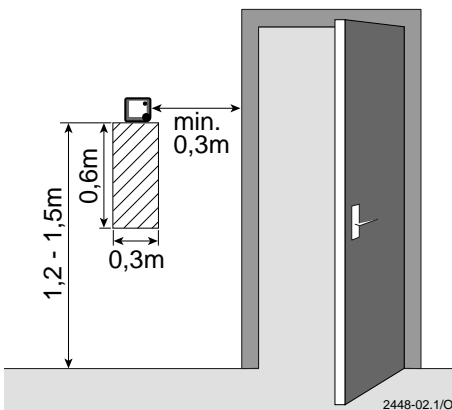

Fig. 2 Recommended installation site for TR 2
- Unrestricted circulation of air through the vents on the top and bottom of the TR 2 (shaded area in Fig. 2 should be kept clear).